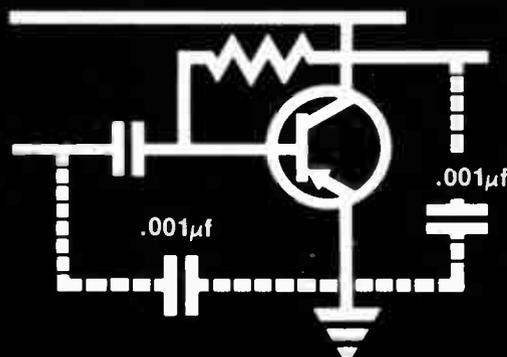
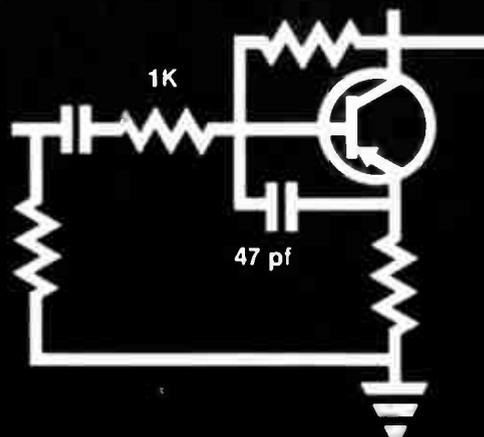

Fig. 18
Fig. 19
1. Interference in transistor equipment can usually be eliminated with the use of a shunt capacitor as shown in Figure 18. A resistor/capacitor combination can be used as shown in Figure 19. It is important that the filter network does not affect the biasing of the transistor or the frequency response of the amplifier.